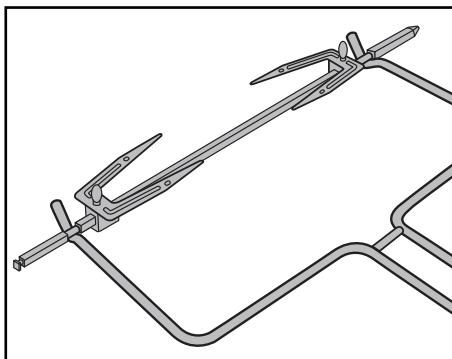

Fig. 3: Hooking the tongs 12 onto the rotisserie 16
- To remove the hot rotisserie 16, grip with the hooks at the end of the tongs 12 into the recesses on the rotisserie 16 (Figure 3):